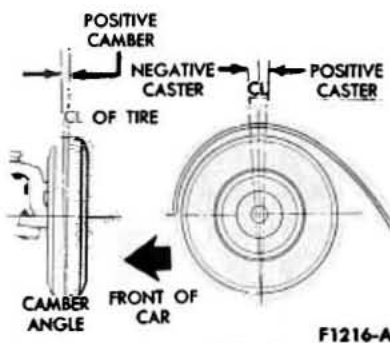

Fig. 78—Caster and Camber Angles
Check the caster angle at each front wheel. Caster is the forward or rearward tilt at the top of the wheel spindle (Fig. 78). If the spindle tilts to the rear, caster is positive. If the spindle tilts to the front, caster is negative. The correct caster angle, or tilt is specified in Group 3 of the appropriate Shop Manual.
Check the camber angle at each front wheel. The camber angle is the amount the front wheels are tilted at the top (Fig. 78). If a wheel tilts outward, camber is positive. If a wheel tilts inward, camber is negative. The correct camber angle, or outward tilt, is specified in Group 3 of the appropriate Shop Manual. The maximum difference between both front wheel camber angles should not exceed $\frac{1}{2}^\circ$. However, a difference of not more than $\frac{1}{4}^\circ$ is preferred.
1. With the aid of a pry bar, move the shaft in or out, as required, to meet specifications. A movement of approximately $\frac{3}{16}$ inch of the entire shaft will change the camber $\frac{1}{4}^\circ$. Inboard movement will change the camber in the negative direction (Fig. 78). Outboard movement will change the camber in the positive direction.